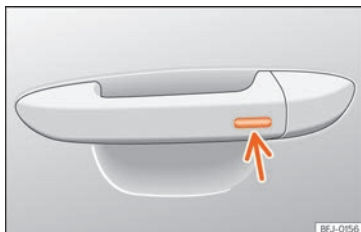

Fig. 95 Door handle: sensor surface.
- Press and hold the locking sensor surface » Fig. 95 (arrow) on the door handle to close the sunroof. If you release the sensor surface, the closing movement stops.